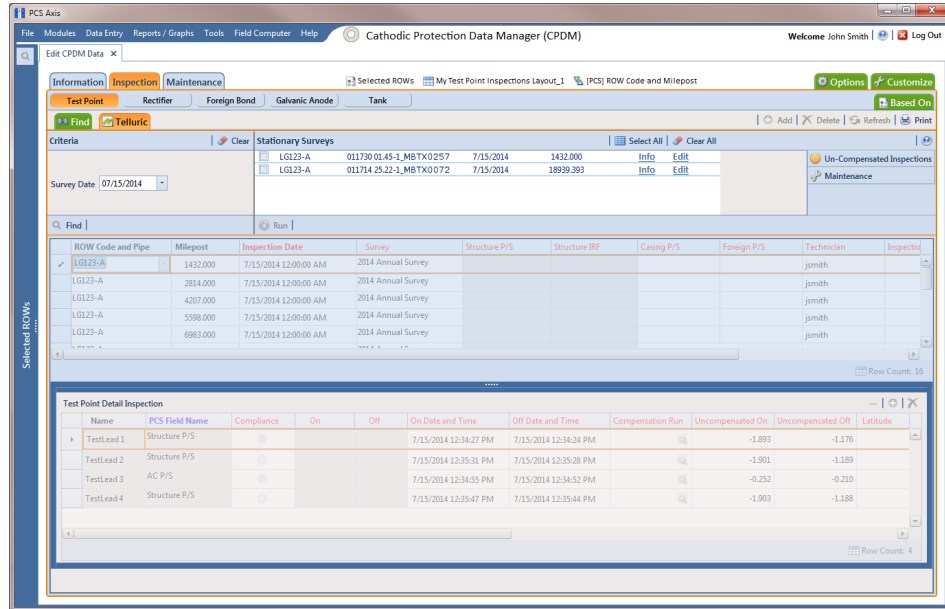

Figure 14-20. Telluric Workspace
- 3 Locate the upstream and downstream SDL survey files associated with the selected pipeline segment by clicking the down arrow in the **Survey Date** field and selecting a survey date using a calendar. You can also type a survey date in the field using the format MM/DD/YYYY to indicate the month, day, and year. Then click  **Find** (Figure 14-20).
- 3 Locate the upstream and downstream SDL survey files associated with the selected pipeline segment by clicking the down arrow in the **Survey Date** field and selecting a survey date using a calendar. You can also type a survey date in the field using the format MM/DD/YYYY to indicate the month, day, and year. Then click  **Find** (Figure 14-20, page 678).
- 3 Locate the upstream and downstream SDL survey files associated with the selected pipeline segment by clicking the down arrow in the **Survey Date** field and selecting a survey date using a calendar. You can also type a survey date in the field using the format MM/DD/YYYY to indicate the month, day, and year. Then click **Find** (Figure 14-20, page 678).